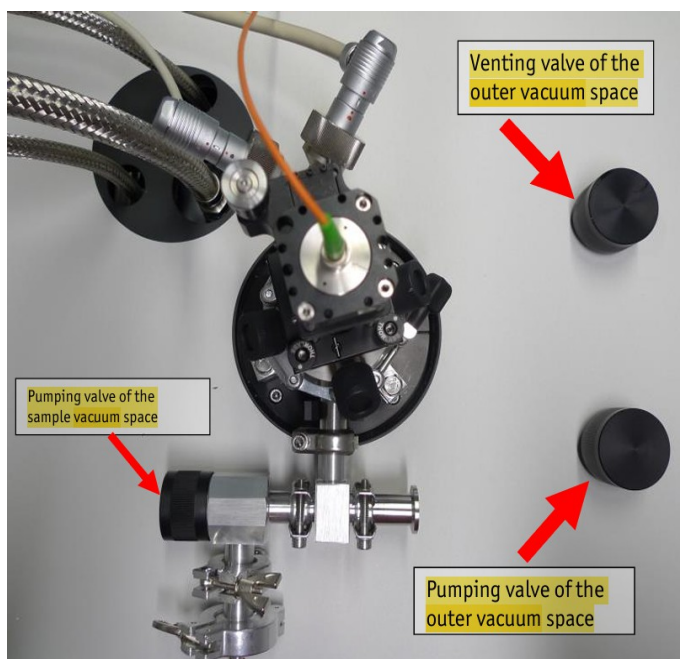

Figure 8: top view of the attoDry1000 with the venting and pumping valve of the outer vacuum space.
Please connect the KF25 valve of the isolation vacuum to a turbo pump (Figure 8 : refer manual). Open the valve to the isolation vacuum and turn on the pump to evacuate the cryostat. Due to the large surface areas, especially of the super insulation foil, inside the cryostat it is recommended to pump the vacuum over night down to a pressure in the range of 10^{-4} mbar.
17. Open the venting valve (Figure 8) of the sample tube and open the valve on the gas cylinder.